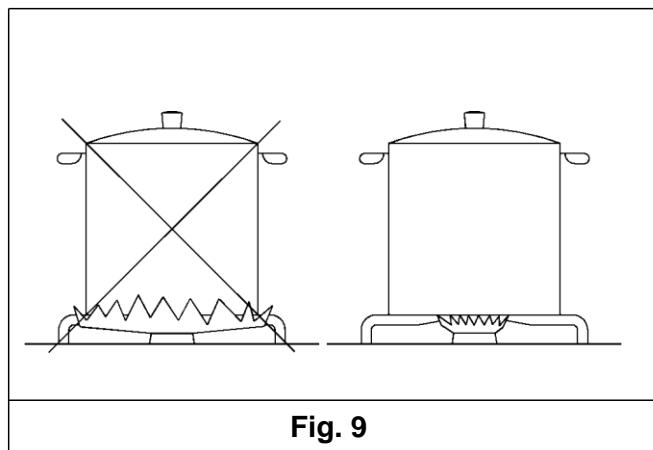

Fig. 9
- Use the correct pan size for each burner. (See the following table and Fig. 9.)